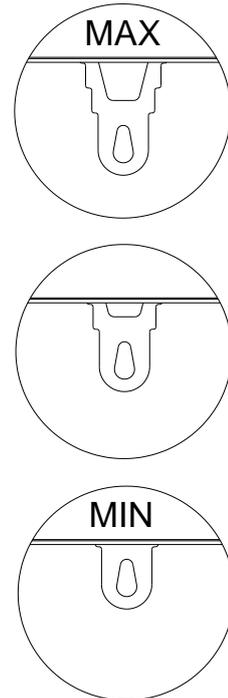

Figure 11– Frame assembly
- Only once the flame is burning well (presence of a bed of coals and full combustion), move the air adjustment to MIN (see fig.11) MAX to obtain normal power, MIN for slow combustion.
Moving the register completely outwards (MAX fig.11) provides the maximum inflow of PRIMARY and SECONDARY air for lighting the fireplace stove.